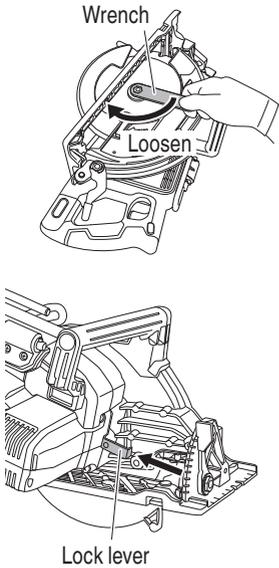

Fig. 15
- (1) Set the cutting volume at maximum, and place the Circular Saw as shown in Fig. 15.